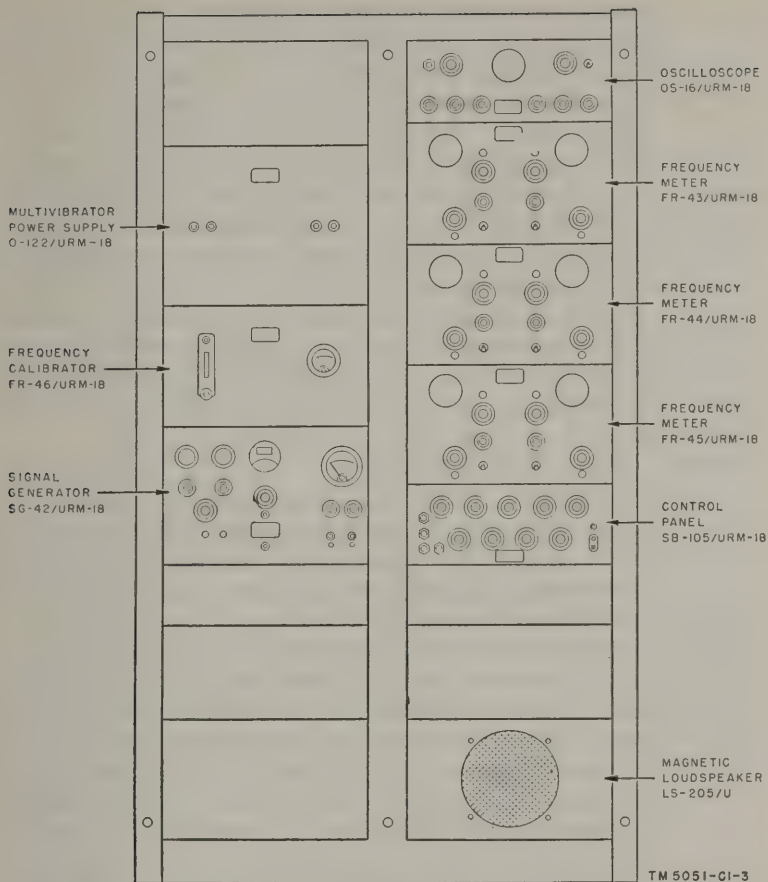

Figure 6.1. (Added) Frequency Calibrator Set AN/NRM-18.
Frequency Calibrator Set AN/URM-18 (fig. 6.1) is used to determine the frequency of the voltage being applied to the crystal under test by the TS-537/TSM. The AN/URM-18 consists of the following components:
- (1) Insert the crystal in the appropriate frequency crystal jack on the panel of the CI meter, and couple the CI meter output (r-f) cable into the  $f_x$  jack on the front or the rear of Control Panel SB-105/URM-18 (fig. 6.1). Switches, coaxial jacks, patch cords, or any other method of making the interunit connections may be used; this depends on, for example, the permanency of the installation and available material. Long connections, whether